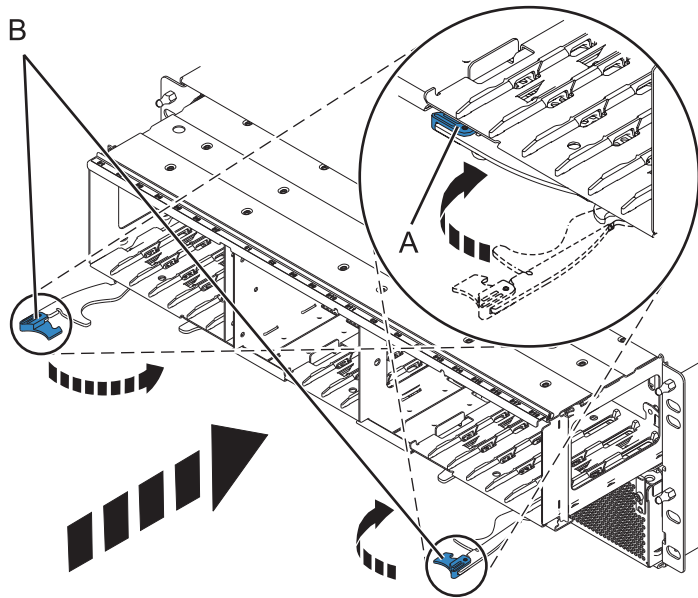
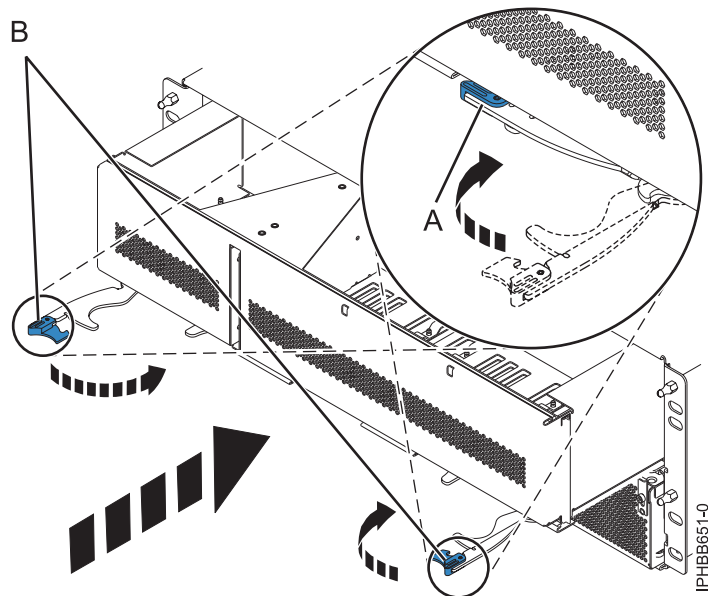

Figure 5. Installing the disk drive backplane in a rack-mounted model
Figure 6. Installing the backplane filler in a rack-mounted model
7. Using your hand to support the bottom of the disk drive backplane or backplane filler, slide it into the expansion unit as shown in Figure 5 on page 8 or Figure 6 on page 8.
8. Secure the disk drive backplane in place by moving the locking tabs from the open position (B) to the locked position (A).